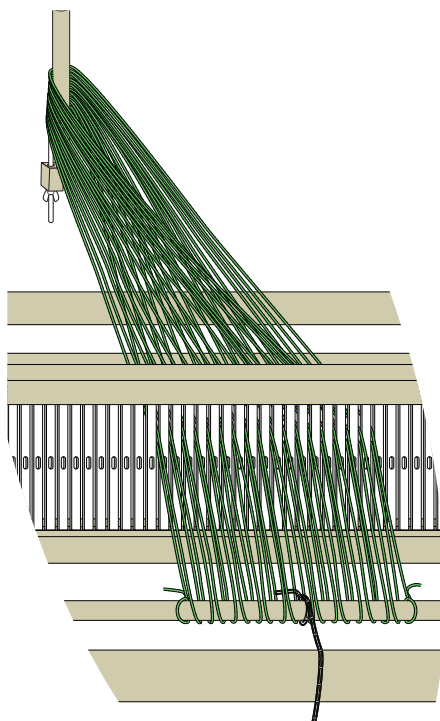

FIGURE 11: ALL SLOTS THREADED
7. Continue pulling the loops through slots, alternately going over and under the apron bar. Place each loop over the warping peg without twisting, as shown in Figure 11. Each loop on the warping peg equals 2 warp ends; repeat these steps until all the warp ends have been measured. Cut off the yarn from the skein or cone and tie this end to the back apron bar (Figure 11).